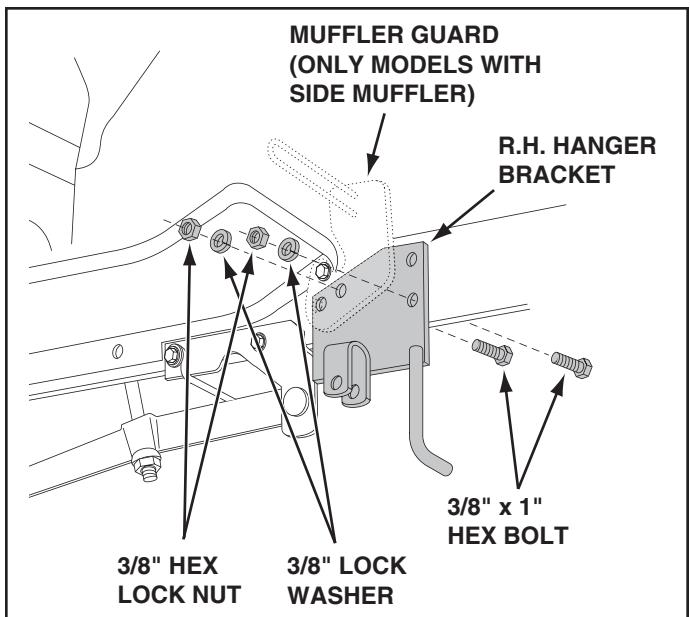

FIGURE 4
- Assemble the R.H. hanger bracket to the bottom hole where the mower stop bracket was removed and to the upper hole under the front of the foot rest. Fasten with two 3/8" x 1" hex bolts, 3/8" lock washers and 3/8" hex lock nuts. (On tractors with muffler guards, slide the hanger bracket between the guard and the tractor frame.) See figure 4.